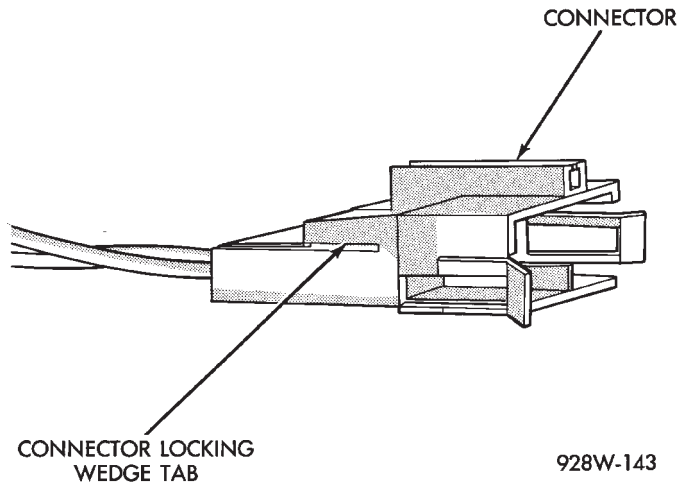

Fig. 16 Connector Locking Wedge Tab (Typical)
(2) Disconnect the connector being repaired from its mating half. Remove connector locking wedge, if required (Fig. 16).
(3) Remove connector locking wedge, if required (Fig. 16).